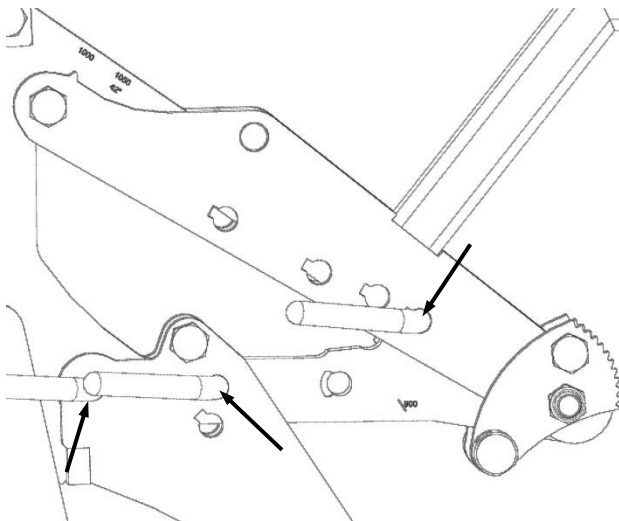

Fig. 1
- Lubricate and oil mobile parts (see arrows in Fig. 1, 2).